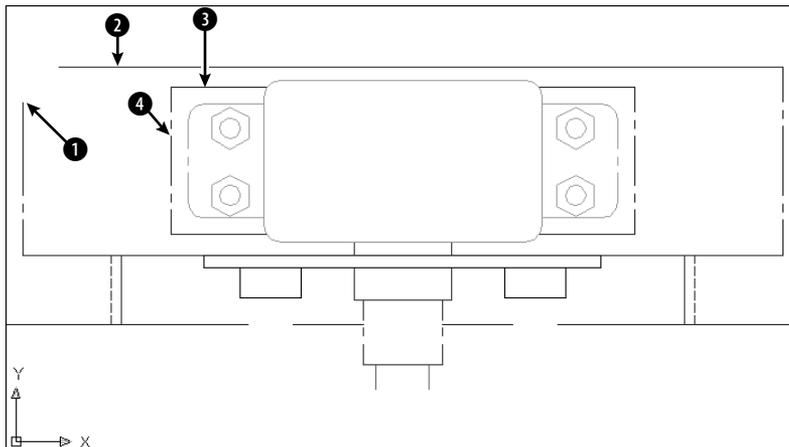
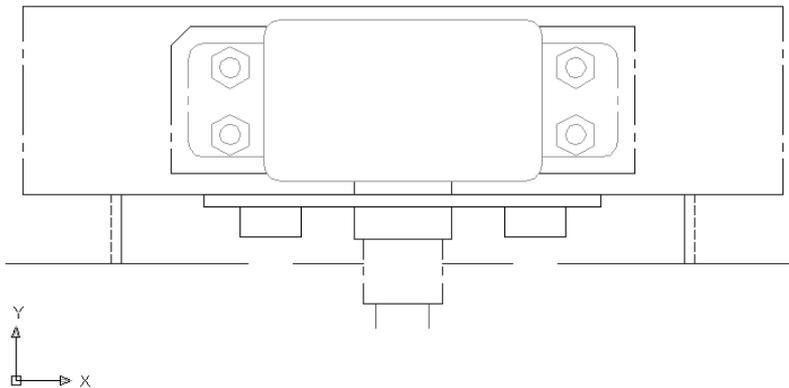

Figure 10-30: A mechanical drawing showing a small section of a “porcupine” mixer.
Figure 10-31: The edited drawing after using the CHAMFER command.
2. Save the file as `ab10-10.dwg` in your AutoCAD Bible folder. This drawing is a very small section of a “porcupine” mixer, as shown in Figure 10-30.
4. At the Select first line or [Polyline/Distance/Angle/Trim/Method/mUltiple]: prompt, pick ❶ in Figure 10-30. At the Select second line: prompt, pick ❷. The command chamfers the two lines to make a corner. (If this doesn't work, you may have the Trim option set to No Trim. Change the setting to Trim and try again.)
6. At the Select first line or [Polyline/Distance/Angle/Trim/Method/mUltiple]: prompt, pick ❸ in Figure 10-30. At the Select second line: prompt, pick ❹. The command chamfers the two lines, as shown in Figure 10-31.